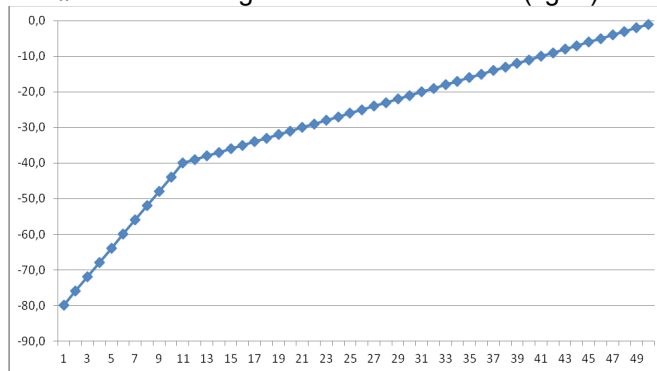

fig. 1
1. Volume Scale #1 – This setting is thought for general loudspeakers (fig. 1) (default)